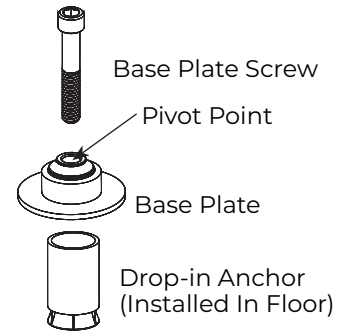

Figure 4 Bottom Pivot
1. Install door portion into prepared door with four (4) 1/4-20 x 5/8" machine screws or #14 x 1-1/2" wood screws. (Figure 4)